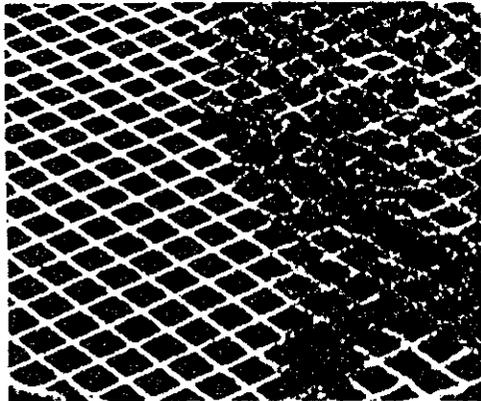

Figure 22
•**Masking (Figure 22)** This is a build-up of a very fine fly ash which coats the surface of the catalyst and prevents it from coming into contact with the smoke. Fly ash can be brushed off with a soft bristled brush or vacuumed away.